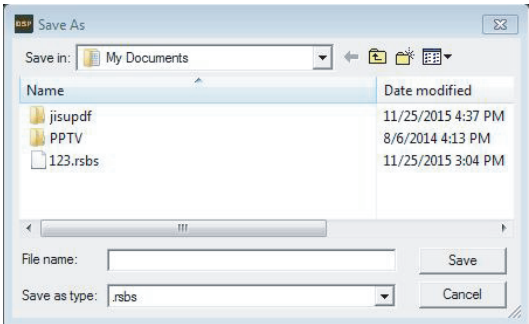

Figure 3.4.6
Step 2: Click "Save" will bring up the file after item Save As dialog window (Figure 3.4.6).